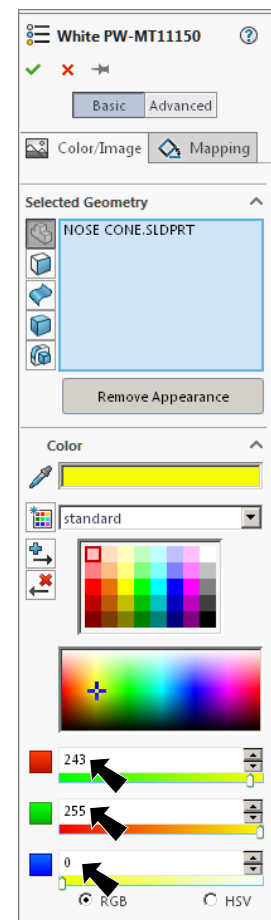

Fig. 35
Step 4. In the Appearances Property Manager, under **Color**, Fig. 35 set **RGB values**